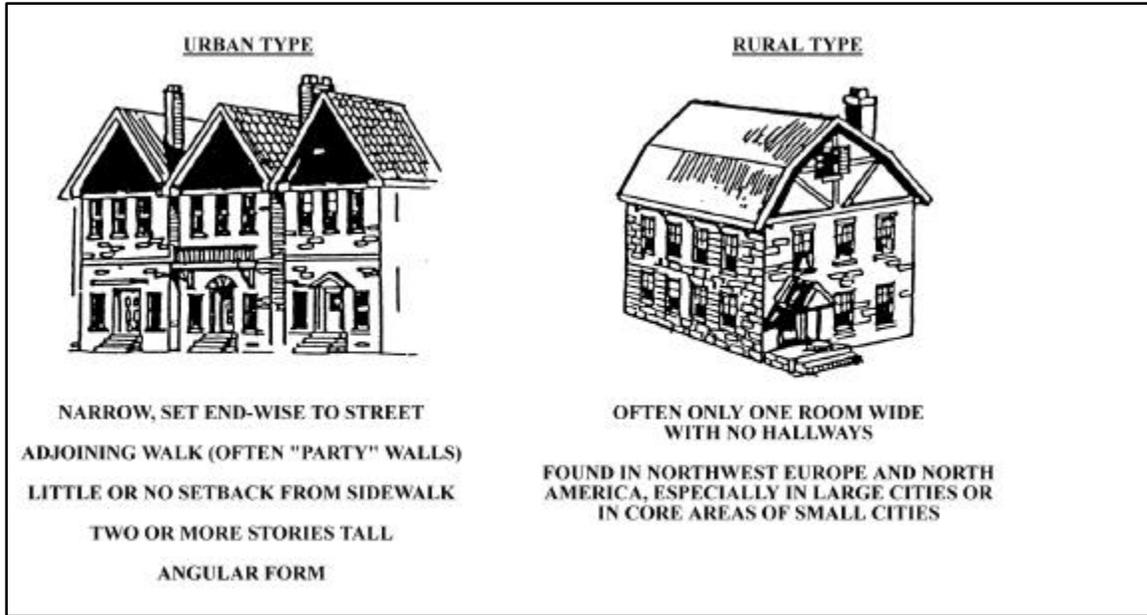

Figure I-18. Types of Housing
4. Residential Areas. The two basic types of houses in the western world are located in and around cities and in rural areas. City-type houses are normally mass-construction brick buildings. Rural-type buildings in the continental United States, South America, and Southeast Asia are commonly made of wood, while in continental Europe, Southwest Asia, and sub-Saharan Africa, where wood is extremely scarce, rural buildings are normally constructed of concrete blocks. Rural-type buildings can also be found within cities (Figure I-18).